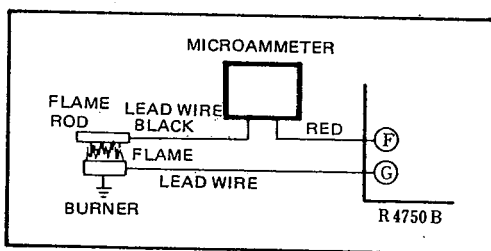

Fig. 12 Method of measuring flame current
Connect a microammeter between terminal (F) and the flame rod, as shown in Fig. 12, then operate the burner and read off the flame current. Normally, the flame current is 2 to 6 μA , a value of at least 2 μA being necessary. Also, the flame current must be stable. Confirm that the meter does not fluctuate unduly. If it is not possible to obtain a stable flame current, one or more of the following are conceivable causes, hence they must be carefully checked:
- ① Power supply voltage and/or frequency is not correct.
- ② Supply gas pressure and/or air-fuel ratio is not correct.
- ③ Connection to flame rod and burner is not correct.
- ④ Flame rod improperly installed